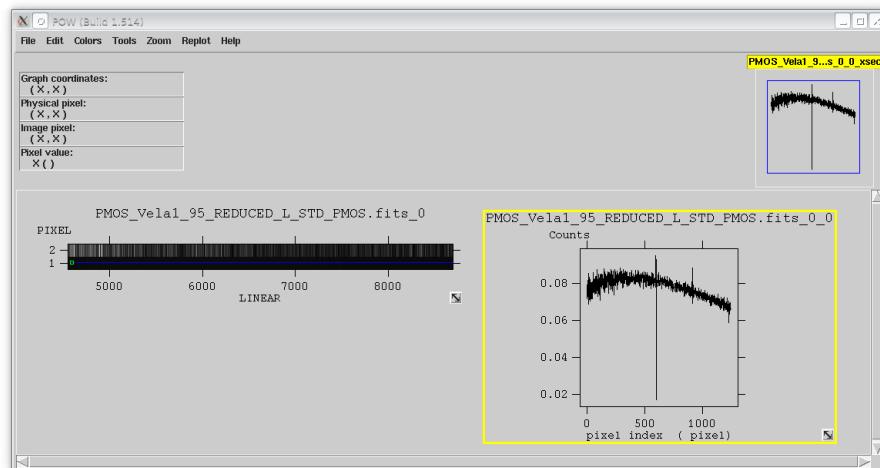

Figure 9.6: The Stokes L (fractional polarization) spectrum of the polarized standard star Vela1-95.
In Fig. 9.6, you see a plot of the Stokes L (fractional degree of polarization) parameter obtained for the second demo data set produced by the `fv`¹² tool:
- left-click in the image display and draw the line across the image to get the profile (see Fig. 9.6).